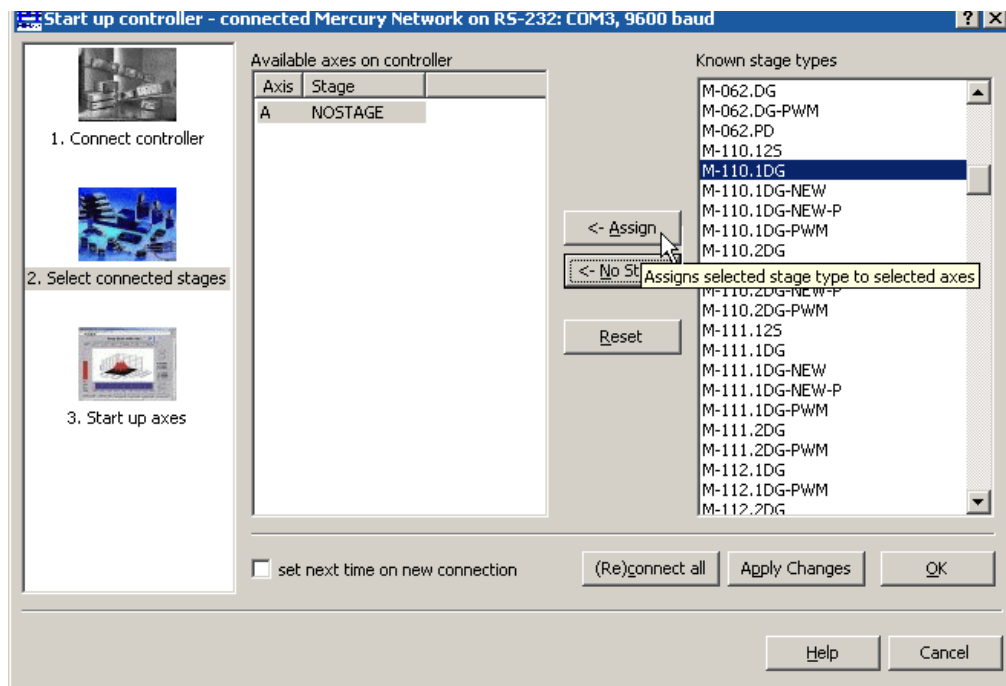

Fig. 5: PIMikroMove™ Start up controller: Step 2: select stage and be sure to click Assign before moving to Step 3 with OK
- 8 After communication has been established, make sure the motion parameters of each axis are set as required for the mechanics. Starting parameters will be set if the software was informed of the type or class of stage connected (as in Fig. 5) . Otherwise it may be necessary to set the